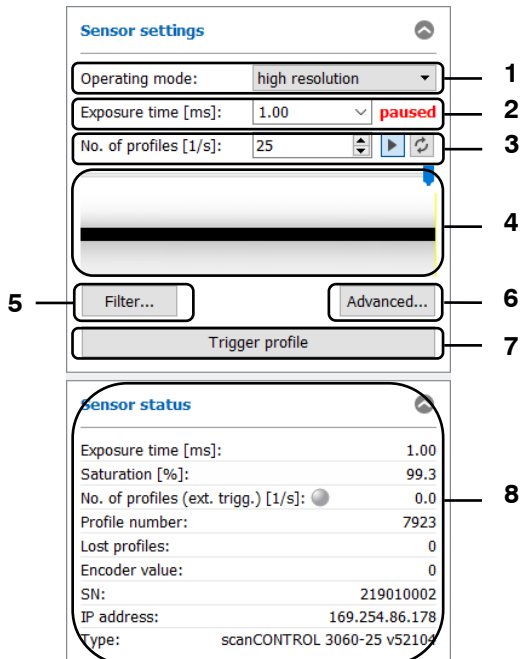

Fig. 3.12: "Scanner settings" input field
-  **Start/Stop data transfer from scanner:** Starts/stops the data transfer from the scanner. When the data transfer is stopped, a correspondent status message is displayed above the button (see Fig. 3.12, section 1)